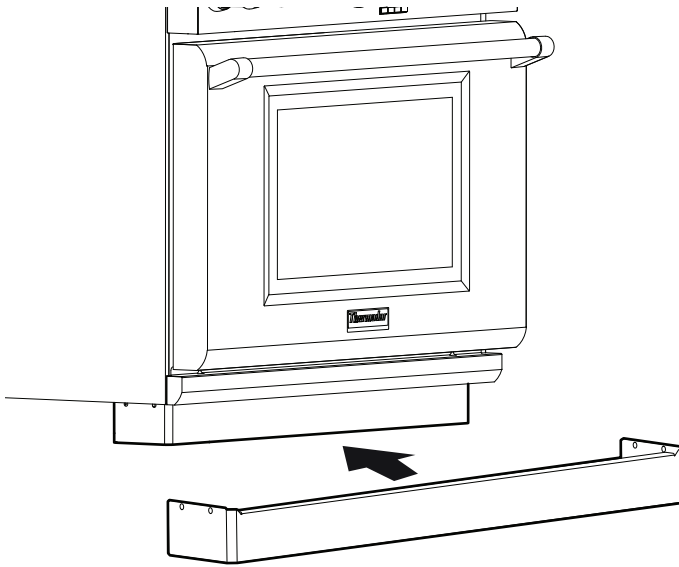

Figure 35: Toe Kick Panel Installation
3. Beneath the range, with the holes and flange facing up, wrap the Toe Kick Panel around the cast aluminum base (see *Figure 35*).
5. Mount the Toe Kick Panel on both sides of the unit into the extruded dimples using the (4) T-20 Torx drill point screws provided.